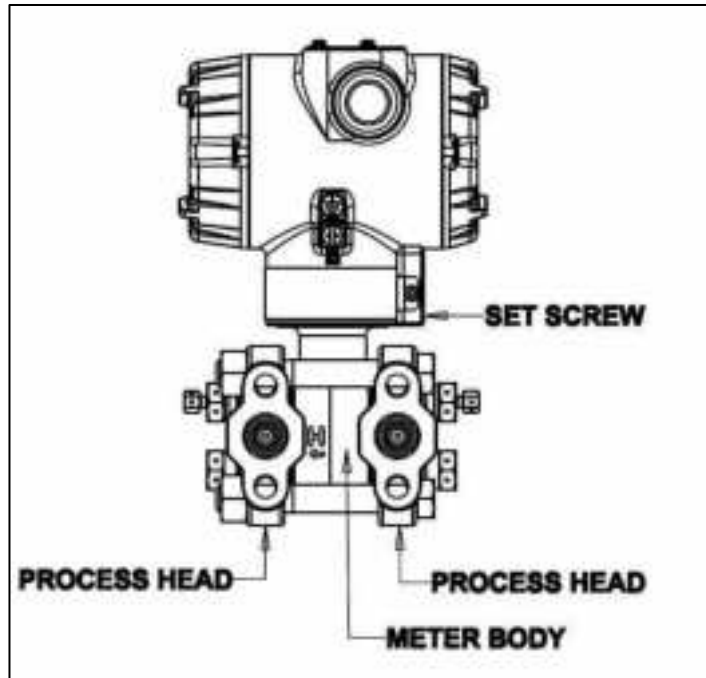

Figure 64 – ST 700 Basic Transmitter - Hardware Location to Remove the Meter Assembly
4. Refer to Figure 64. Loosen the End Cap Lock and unscrew the End Cap from the electronics side of the transmitter housing.